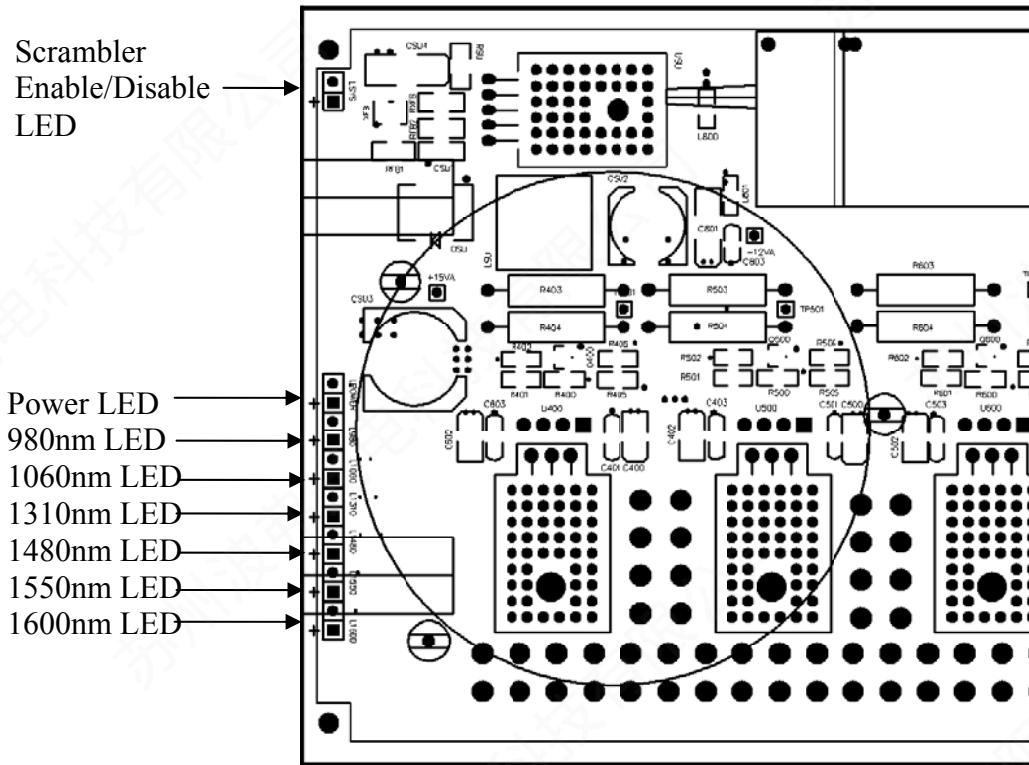

Figure 4 Magnified section of board showing status indicators
Figure 4 shows a magnified view of the section of the board containing the power, enable/disable, and wavelength selection status indicator LEDs.
2. Turn on the power supply after connecting power cable. The Power LED and 1550 nm LED (Figure 4) will turn on. The default power-up settings are: